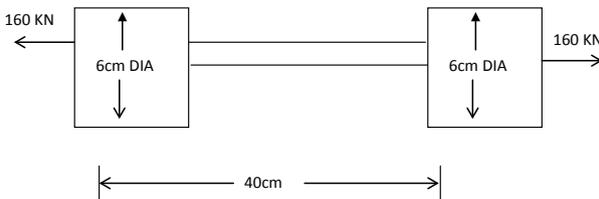

Fig. 1.8
9. The bar shown in fig. 1.8 is subjected to a tensile load of 160 kN. If the stress in the middle portion is limited to 150 N/mm^2 , determine the diameter of the middle portion. Find also the length of middle portion if the load if the total elongation of the bar is to be 0.2 mm. Young's modulus is given as equal to $2.1 \times 10^5 \text{ N/mm}^2$.